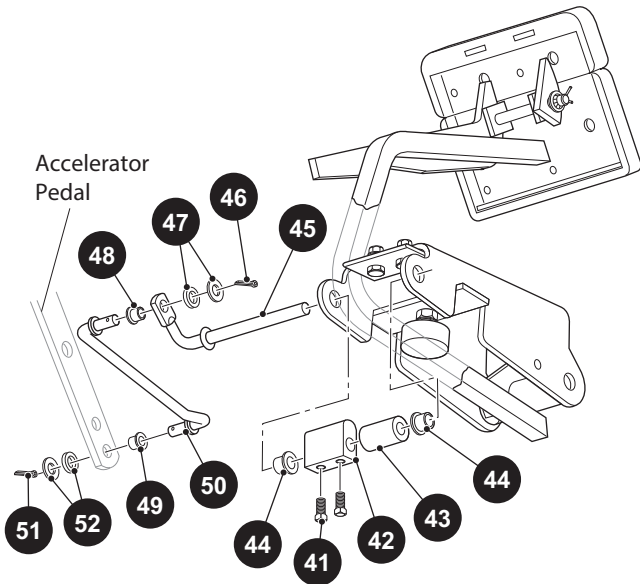

Fig. 31 Parking Brake Release Linkage and Kick-Off Cam Removal and Installation.
1. Remove the cotter pins (46), washers (47), and bushings (48) securing the linkage rod (45) to the accelerator pedal and the kickoff cam pivot (50). Remove the linkage rod (Ref Fig. 31).
2. Inspect the bushings (48) and replace them if they are worn.
3. Loosen the two setscrews (41) securing the cam (42) to the cam pivot (50).
4. Remove the cam (42), bushings (44), and spacer (43).
5. Inspect the bushings (44) and spacer (43) and replace them if they are worn.